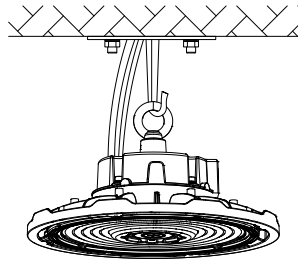
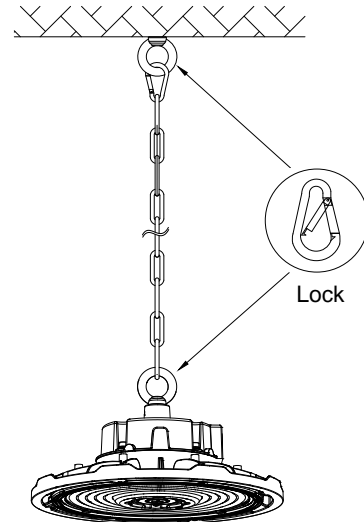

Figure 2
Figure 3
2. Hang the fixture on the ceiling hook (Figure 2) or chain (Figure 3).